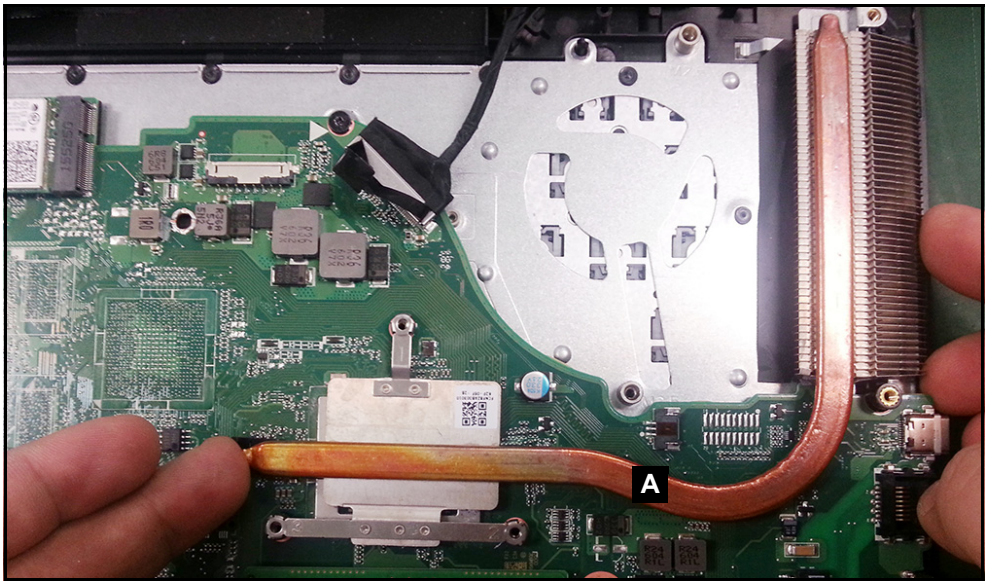

Figure 3-36. Heatsink (UMA) Removal
3. Remove the heatsink (A) from the mainboard (Figure 3-36).